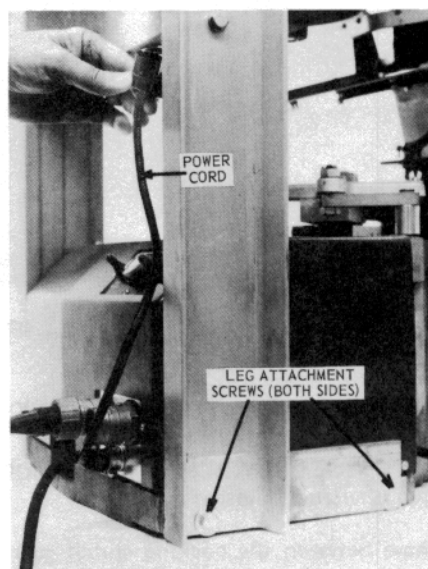
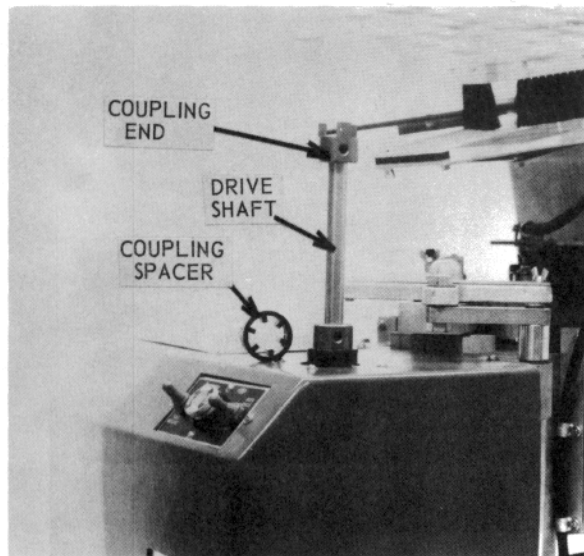

Figure 66 — Power Cord and Leg Attachment Screws
Figure 67 — Drive Shaft and Coupling Spacers
- 6.1.2 Detach the power cord at the magazine gear box by turning it counterclockwise and pulling it out (see Figure 66).
- 6.1.3 Loosen the four screws that hold the magazine support legs to the base (see Figure 66). Pull up on both legs and remove the magazine assembly. Be careful not to lose the drive shaft and two molded rubber coupling spacers that fit in the coupling ends (see Figure 67).